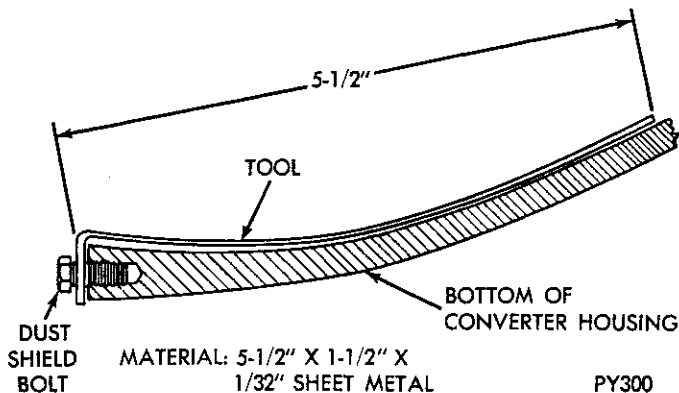

Fig. 1—Leak Locating Test Probe Tool
(1) Remove converter housing dust shield.
(2) Position vehicle with front lower than back so that accumulated fluid in converter housing will drain out. Wipe bottom inside of converter housing as dry as possible. A solvent spray followed by compressed air drying is preferable.
(3) Fasten test probe (Fig. 1) securely to convenient dust shield bolt hole. Make certain converter is cleared by test probe. Tool must be clean and dry.
(4) Run engine at approximately 2,500 rpm with transmission in neutral, for about 2 minutes. Transmission must be at operating temperature.
(5) Stop engine and carefully remove tool.